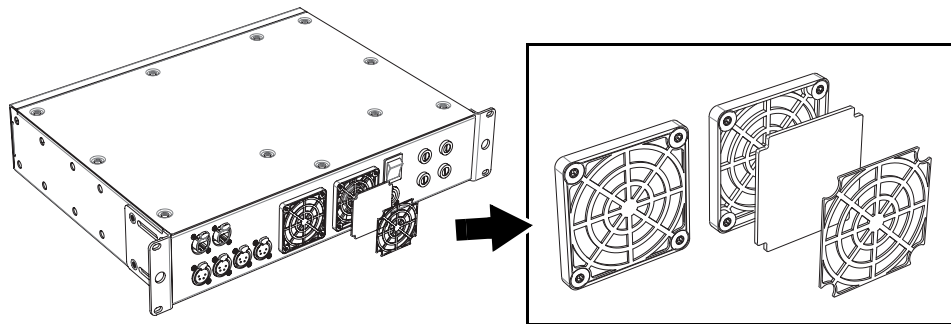

Figure 6: Fan grills and air filters
2. Unclip both the fan grill covers on the rear panel from their holders and remove and clean the fan air filters (see Figure 6).